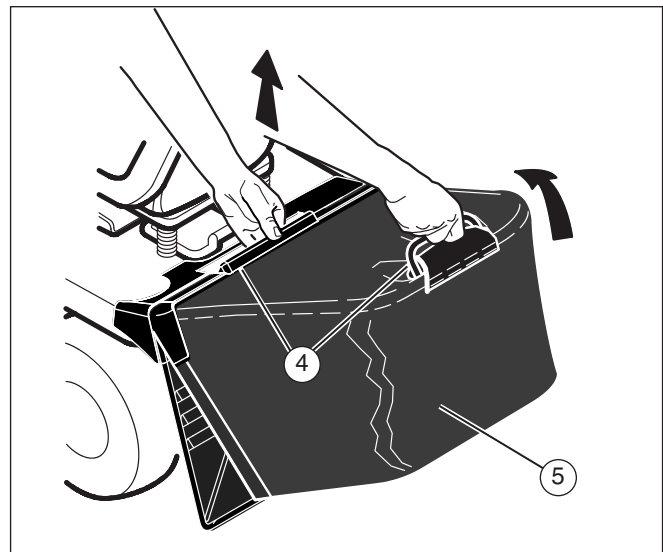

Figure 20
7. Hold the handles (4). Remove the grass bag (5) (see **Figure 20**).